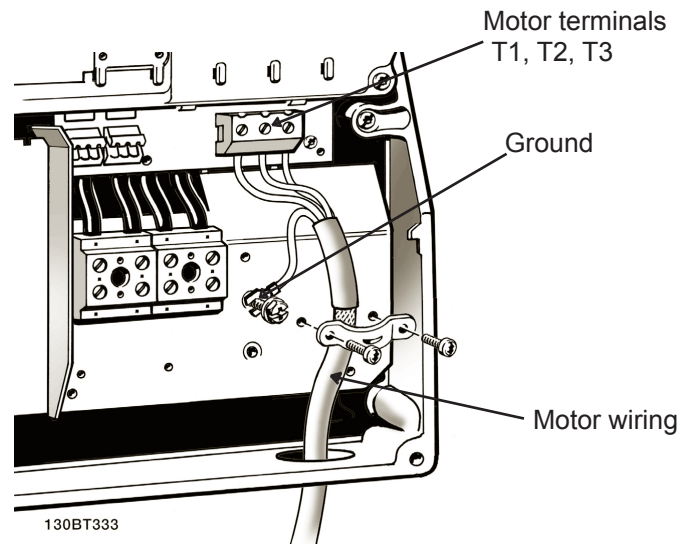
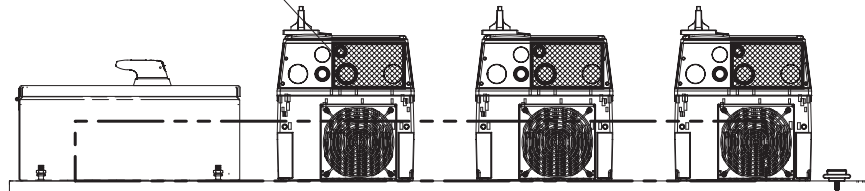

Figure 3-7. Sample Motor Wiring
Figure 3-6. Wiring Access Panels (bottom view)
- Motor wiring access panels are provided at the base of the units as shown in Figure 3-6:
- Connect the 3-phase motor wiring to bypass terminals T1 (U), T2 (V), and T3 (W). See the connection drawing provided with unit.
- Depending on the configuration of the equipment, motor wiring may be connected to an electrical or mechanical overload, a contactor, or terminal block (see Figure 3-7).